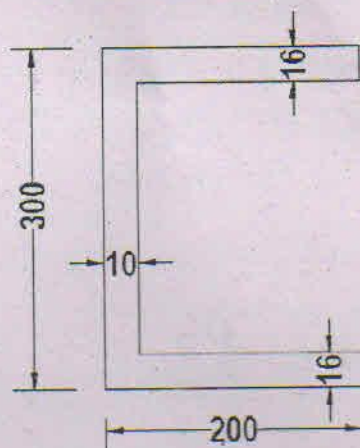

Figure 5
8. Locate the shear centre of the following section shown in figure 5. (All dimensions of the figure below are in mm) (10)